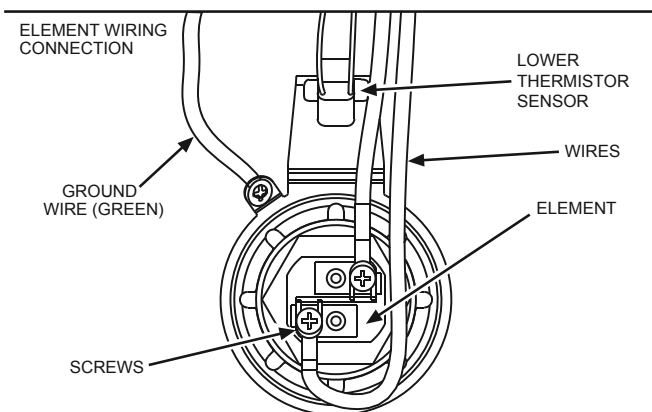

FIGURE 19
4. Disconnect the electric wires from the heating element. (See Figure 19.) Remove the screw-in element by turning the element counterclockwise with an SAE 1-1/2 inch socket wrench or use an element wrench. Remove the existing gasket.